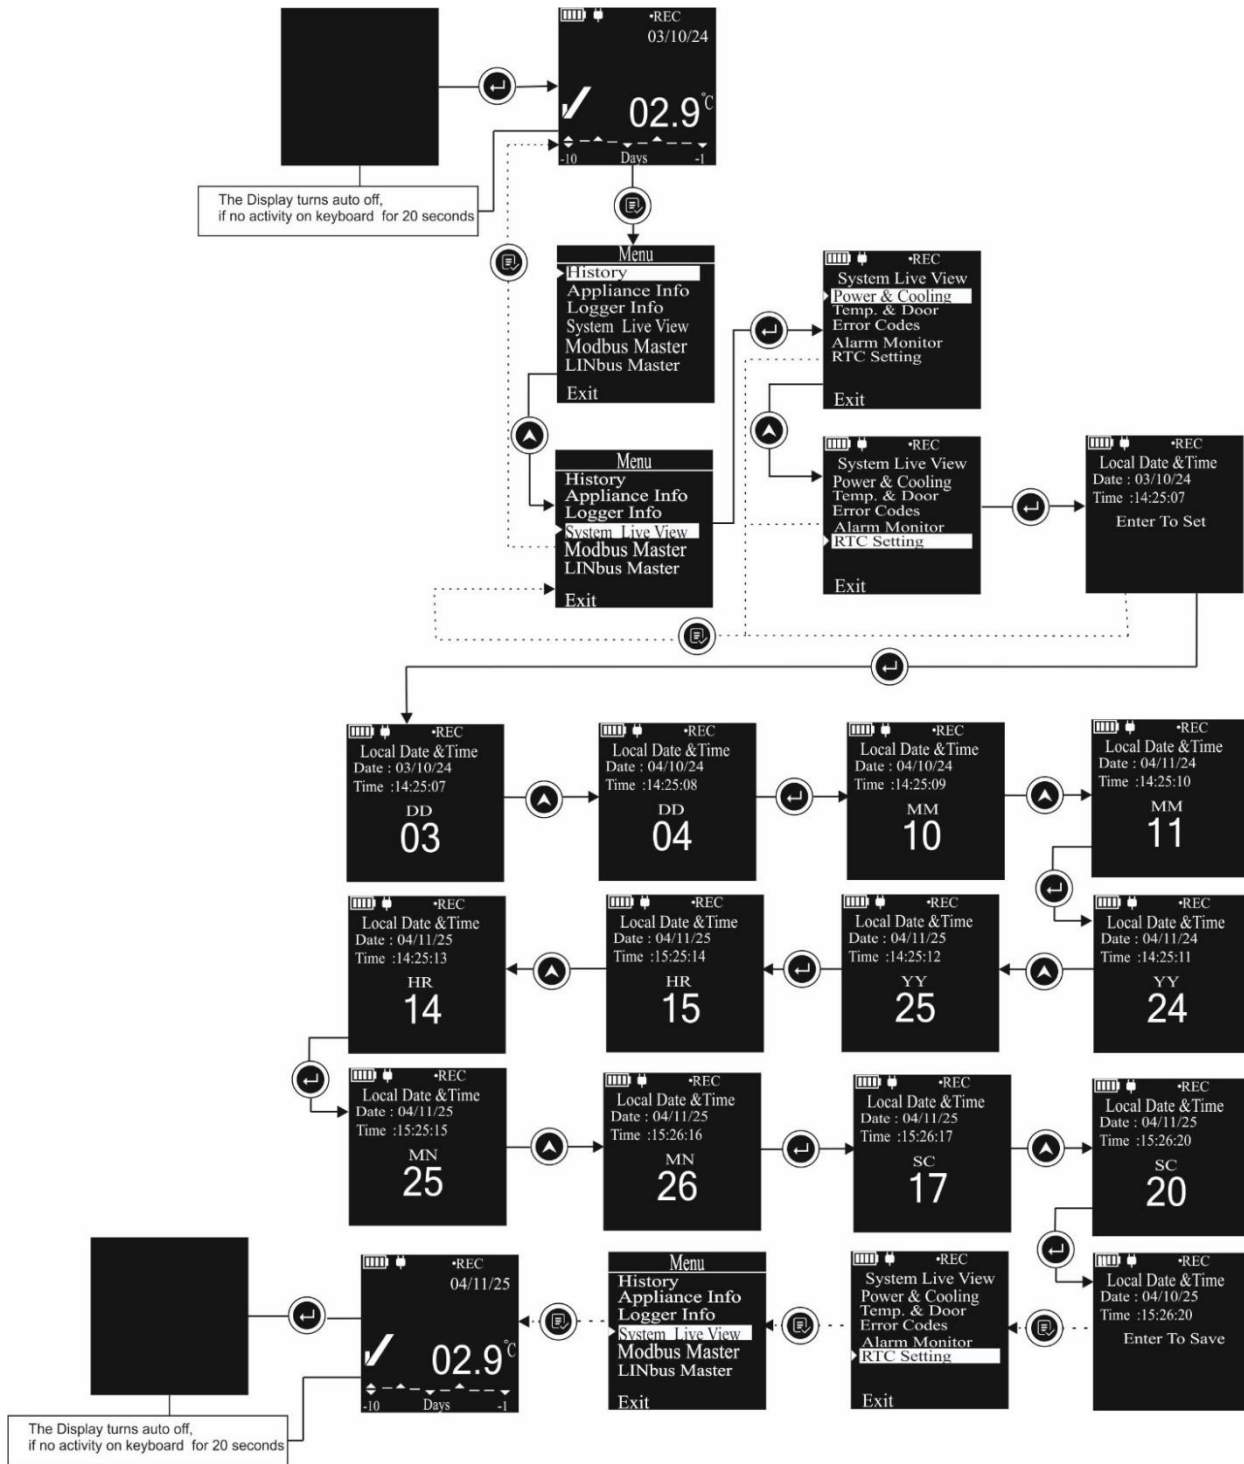

Figure 36 RTC Setting Menu
6. **RTC Setting#:** The device has an ability to set the local date and time through RTC Setting menu as shown in figure 36. To set the Local date and time follow the steps outlined in figure 36 completely to set the date and time properly. Use the "Up" key to update a parameter and the "Enter" key to proceed to the next parameter. The adjusted date and time will be displayed on the home screen.